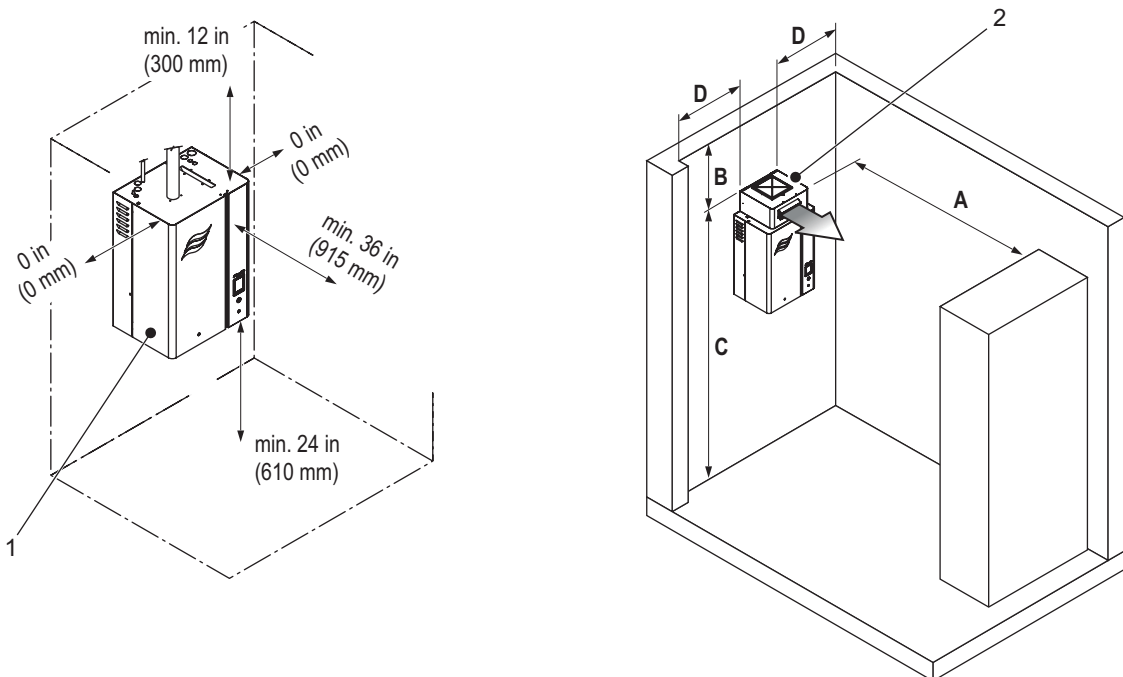

Figure 16: Location and Clearances
- Allow adequate clearances around the humidifier for ease of maintenance. Although the Nortec EL humidifier requires no side clearance, Conair recommends minimum clearances of 6 in (150 mm) on the side. A clearance of 24 in (610 mm) between the humidifier and the ground is also required. Refer to Figure 16 and Table 11 on page 36, which also show the clearances required for the Nortec EL Space unit. Observe all local and national installation codes. Conair is not responsible for any installation code violations.